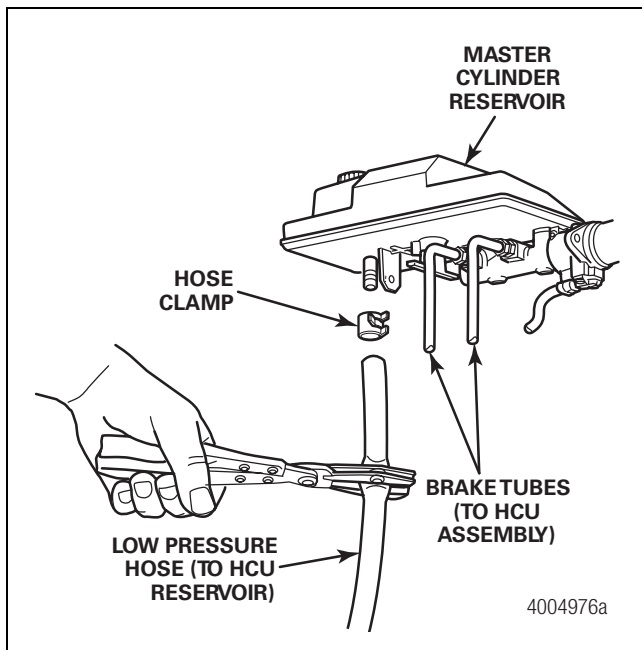

Figure 4.37
10. Disconnect the low pressure hose from the master cylinder reservoir. All of the fluid coming out of the master cylinder reservoir, approximately one gallon (3.4 liters), should drain into the container. Remove the cap from the master cylinder reservoir to improve the draining process. Plug the low pressure hose to prevent system contamination. Figure 4.37.